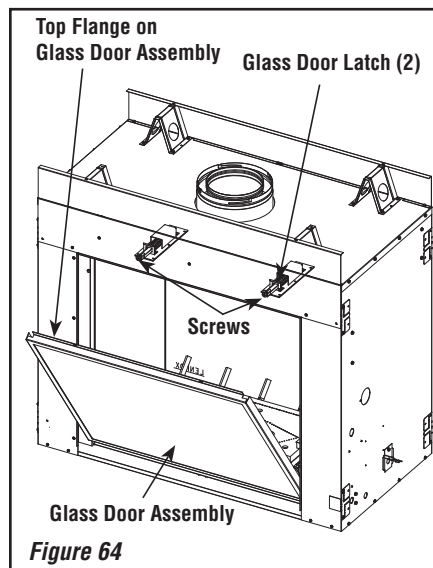

Figure 64
- b) Position the door in front of the firebox opening, with the top of the door held away from the fireplace (see Figure 64).
- d) Using a #3 Phillips screwdriver, fasten the door frame to the door latches with the two (2) latch screws. The latches should pull forward to engage the door frame.